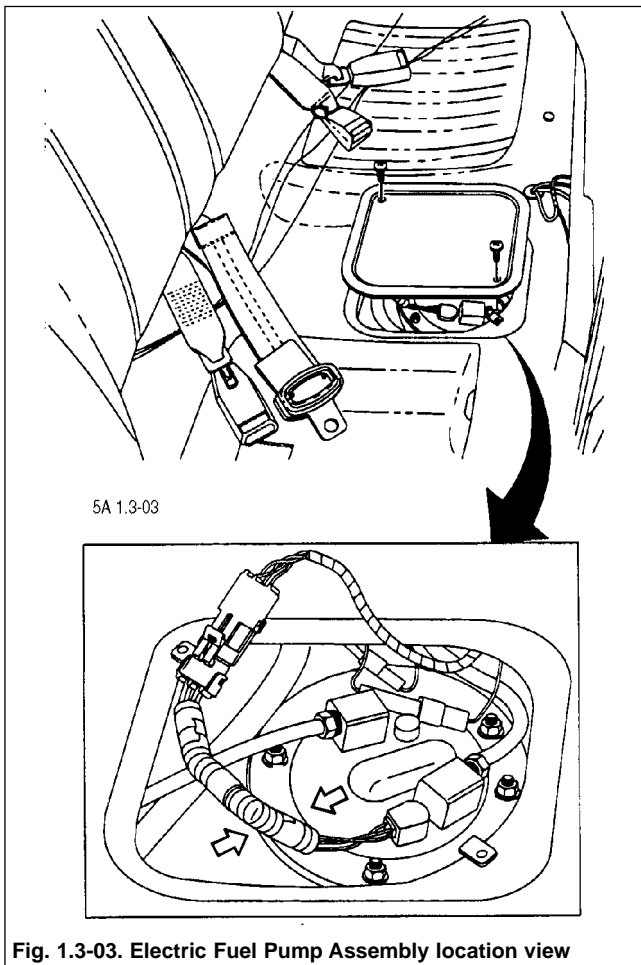

Fig. 1.3-03. Electric Fuel Pump Assembly location view
2. Disconnect the fuel pump harness connector (Fig. 1.3-03).
2. Remove the fuel tank access cover (Fig. 1.3-03) and disconnect the fuel pump harness connector.